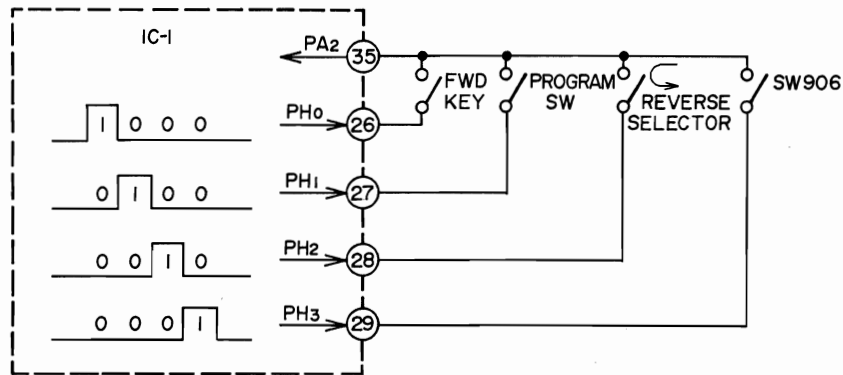

Fig. 6-27
If any input is made into (35), it is processed within the microcomputer depending on the signal and the signal is outputted from the respective terminal. If 1000 is inputted into (35), it is judged as FWD and the related signal is inputted to the output terminal. (See Fig. 6-27). Similarly, Signal 0100 from (27) passes the emitter and collector of TR86 and enters the Counter P.C Board. When the program SW (SW6) is pressed, Signal 0100 is inputted into IC1 (35). Signal 0010 from (28) passes the collector/emitter of TR87, and through D66 and the reverse selector SW, it is inputted into IC1 (35). Signal 0001 from (29) passes SR1 and SW906 and is inputted into (35).